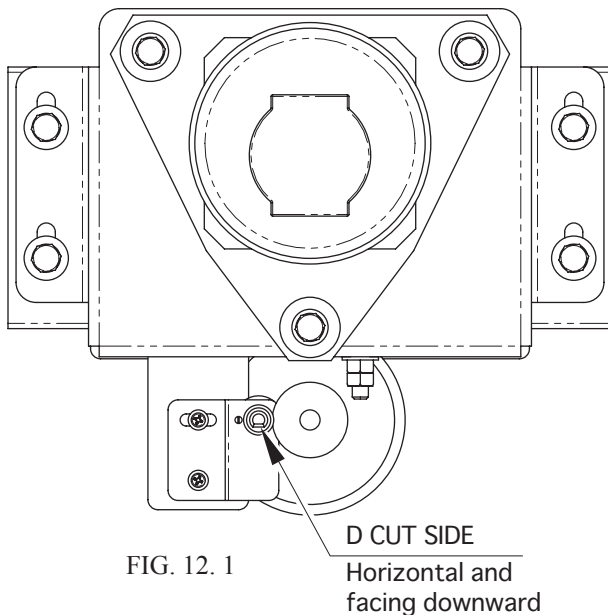

FIG. 12.1
- Engage the gear so that the D-cut side of the VR axle is level and facing downward when the steering unit is in the straight position (see Figure 12-1).